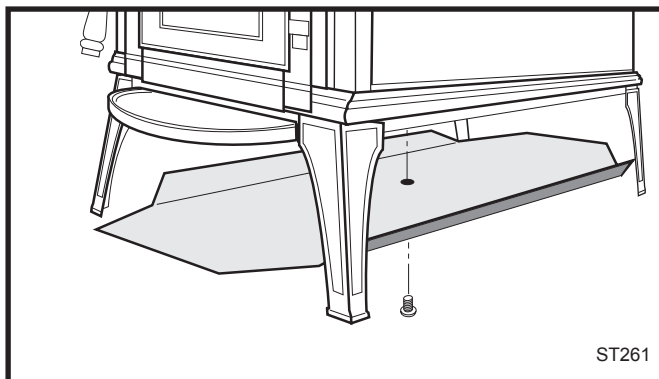

Fig. 17 Install the bottom heat shield.
1. Remove the 1/4-20x 3/8” phillips screw from the central mounting boss in the stove bottom. (Fig. 17)